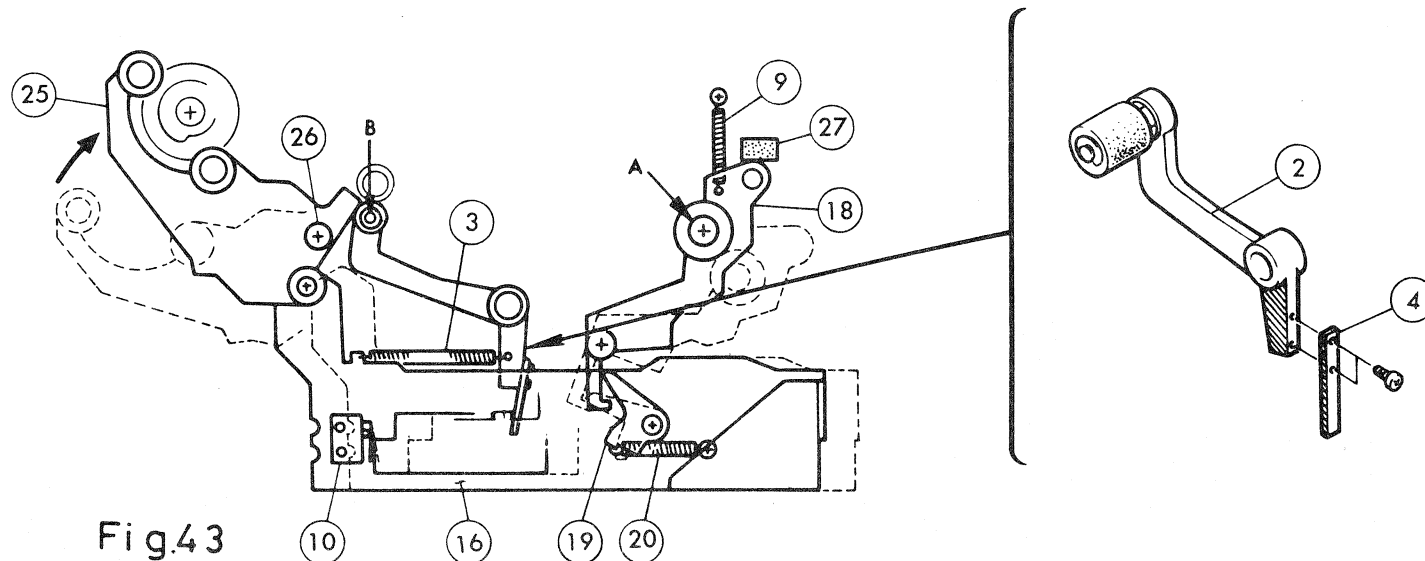

Fig. 44
3. Remove ⑩ by unscrewing ⑮, ⑰ and ⑱ successively. (Unscrew ⑱ carefully so as not to drop ⑫.)
4. Pull out ⑨ by unscrewing ⑪.
5. Remove ③ by loosening ④.
6. Remove ⑥ and ⑦ by unscrewing 2 pieces of screws ⑤.
7. For further disassembly, refer to Fig. 44.